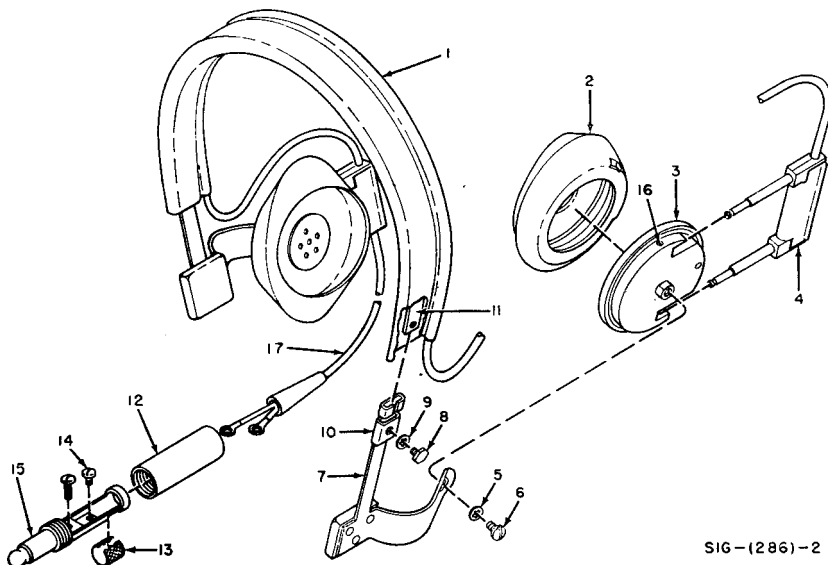

Figure 2. Headset H-113/U, exploded view.
11. Disassembly and Reassembly (fig. 2). a. *Disassembly.*